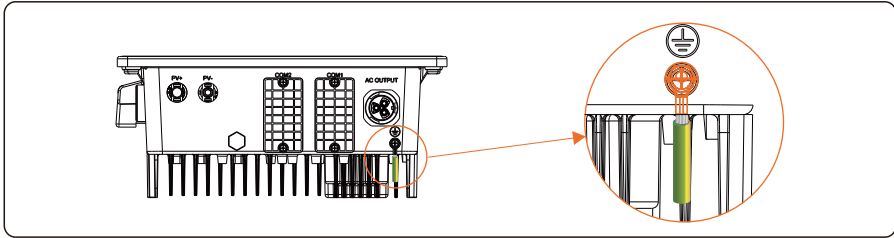

Figure 5.4 Secure the PGND cable
Step 4 Secure the PGND cable (done by step 1 & 2) using the ground screw and tighten the screw using a socket wrench (torque 1.2 N · m), as shown in Figure 5.4.